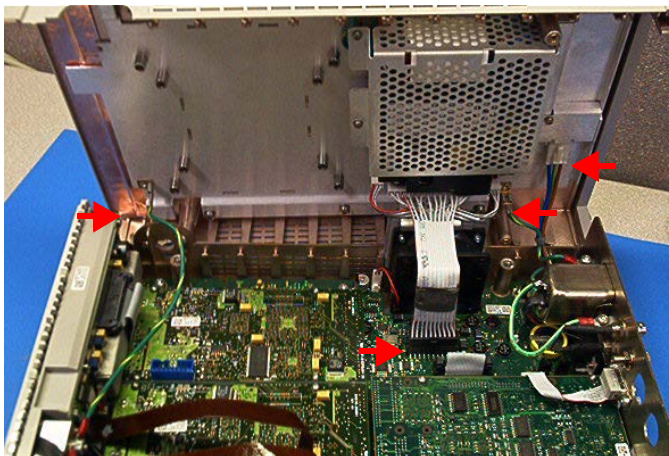

Figure 5-3
- Remove the top clamshell (Figure 5-3): Disconnect the mains power connector from the top clamshell. Disconnect the ribbon cable from the main board. Disconnect both earth spade connectors from the top clamshell. Remove top clamshell.